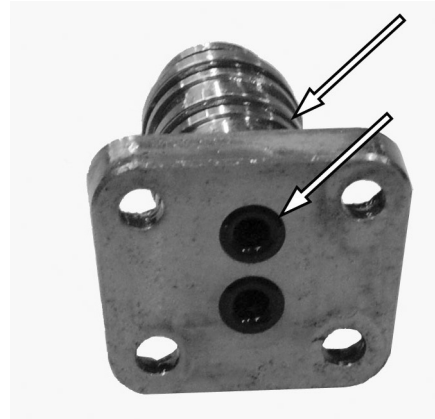

Figure 19. Multiswivel Post Removal
7. See Figure 19. Lift out the multiswivel post. Remove and discard the port seals and post seals.